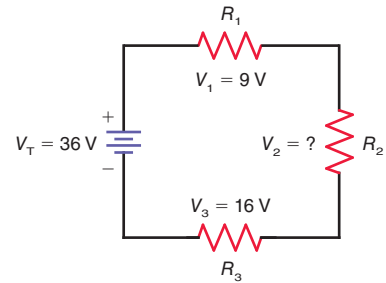

Figure 5-26
- 5.14 Determine the voltage, V_2 , in Fig. 5-26.